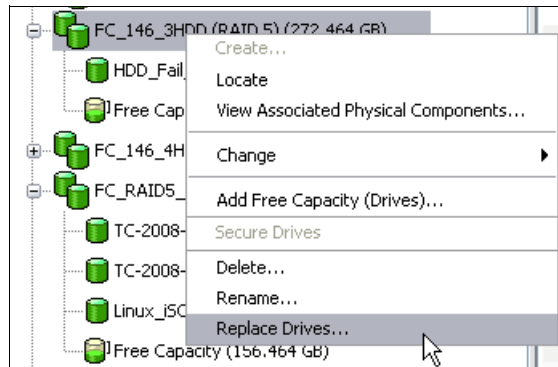

Figure 7-68 Replace Drives option in Storage Manager logical view
- The alternate solution is to make another disk a permanent replacement for the failed drive. When we right-click the icon for the array with the failed disk in the logical view, we are given the Replace Drives option, as shown in Figure 7-68. This menu option is normally grayed out when all drives in the array are optimal.